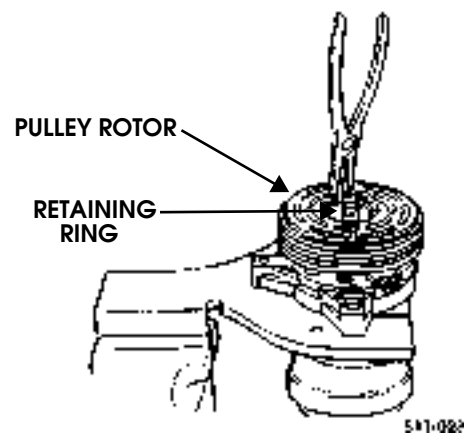

Figure 11-38: Retaining Ring
- Using snapping pliers, install retaining ring (Figure 11-38).